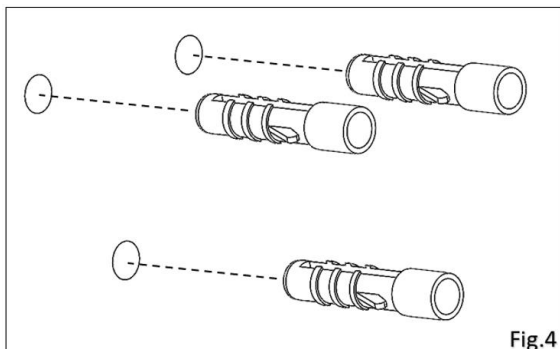

Fig.4
- Insert a wall plug into each hole as per **Fig.4**
- Insert Wall plugs into wall as per **Fig.4**